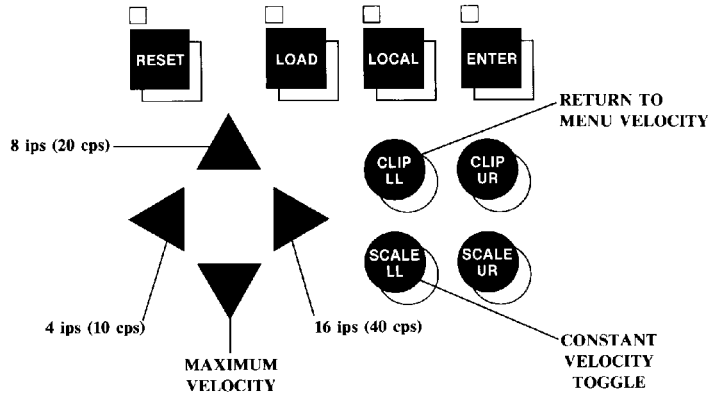

Figure 2-3.
The temporary control entries are shown in Figure 2-3.
3. Press the ◀ key for 2 ips (see Figure 2-3). After the key is pressed, the plotter automatically returns to remote mode and continues processing. (The plotter may have internally pre-processed one or two vector moves at the original velocity before the ENTER was pressed in step 2. If so, the plotter will plot those vectors at the original velocity before the 2 ips selection goes into effect.)
4. After the plotter draws the design at 2 ips, press the ENTER key again. Plotting can be resumed at menu velocity (12 ips) by pressing the CLIP LL key (see Figure 2-3).